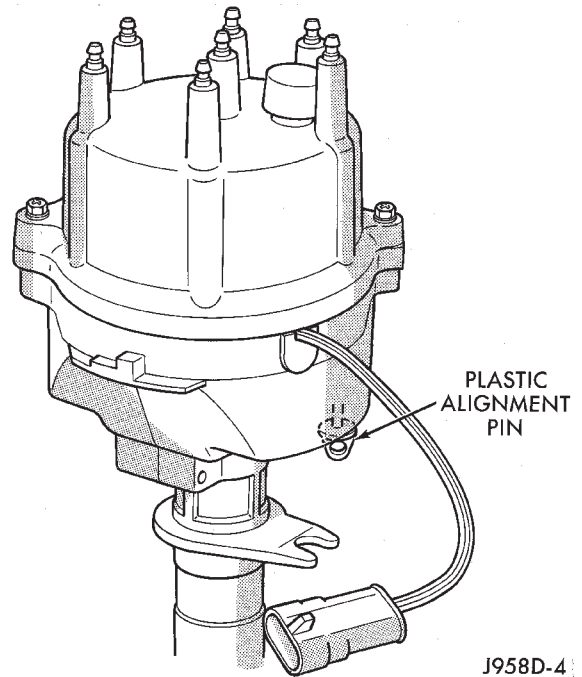
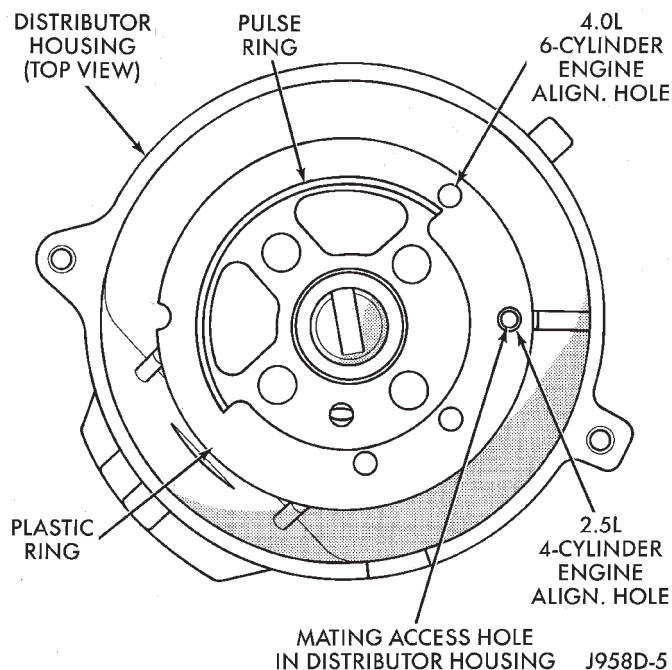

Fig. 7 Plastic Alignment Pin
Fig. 12 Pin Alignment Holes
Factory replacement distributors are equipped with a plastic alignment pin already installed. The pin is located in an access hole on the bottom of the distributor housing (Fig. 7). It is used to temporarily lock the rotor to the cylinder number 1 position during installation. The pin must be removed after installing the distributor.
(3) Factory replacement distributors are equipped with a plastic alignment pin already installed (Fig. 7). This pin is used to temporarily hold the rotor to the cylinder number 1 firing position during distributor installation. If this pin is in place, proceed to step number 8. If not, proceed to step number 4.
(4) If the original distributor is to be reinstalled, such as during engine overhaul, the plastic pin will not be available. A 3/16 inch drift pin punch tool may be substituted for the plastic pin.
(5) Remove the camshaft position sensor from the distributor housing. Lift straight up.
(6) Four different alignment holes are provided on the plastic ring (Fig. 12). **Note that 2.5L and 4.0L engines have different alignment holes (Fig. 12).**
(7) Rotate the distributor shaft and install the pin punch tool through the proper alignment hole in the plastic ring (Fig. 12) and into the mating access hole in the distributor housing. This will prevent the distributor shaft and rotor from rotating.